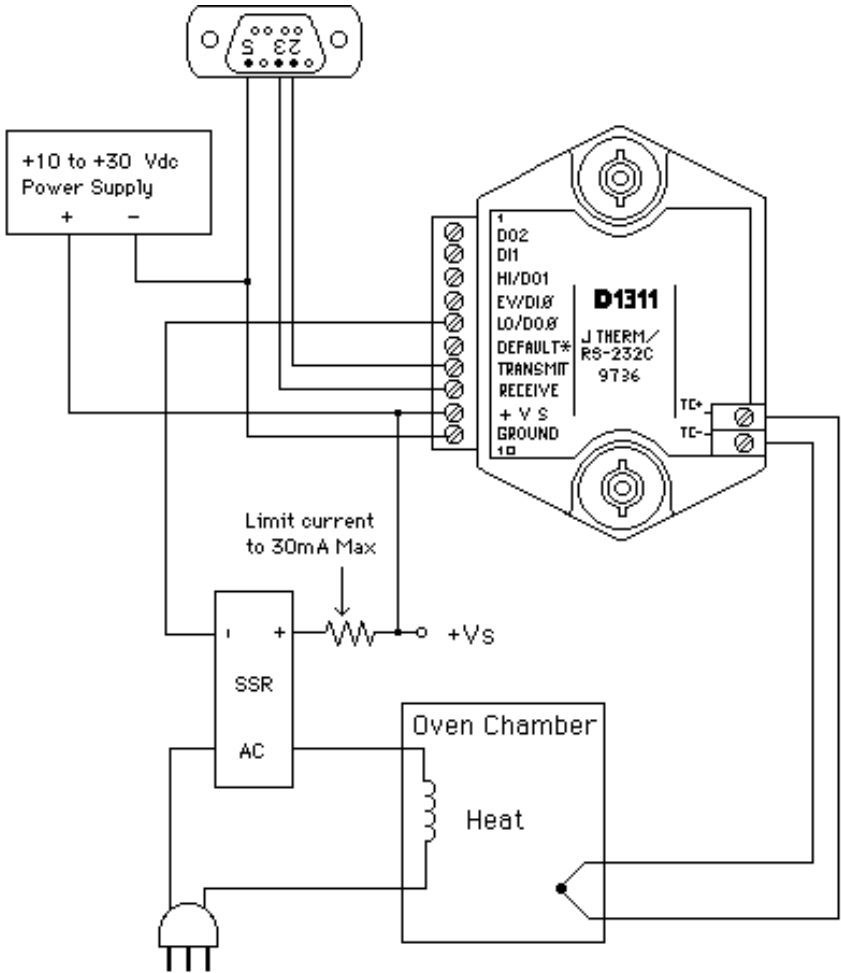

Figure 6.5 On-Off Controller
The simplest controller connection is to use a momentary alarm output to control the process. A typical application would have a temperature input module controlling a heater, as shown in Figure 6.5. To maintain a constant temperature, set the low limit to the setpoint desired and specify the alarm output to be momentary. Use the LO alarm output to control the heater. If the temperature measurement exceeds the low limit, the heater
A typical example of a controller with hysteresis is illustrated in Figure 6.5. A J-Thermocouple input module such as a D1311 maybe used to regulate the temperature of an oven. The thermocouple is used to sense the oven temperature. The LO alarm output controls a solid state relay (SSR) which in turn controls the oven heater. The Enable Alarms (EA) command must be used to activate the alarm outputs. In this case the desired regulated temperature is 100°C. The Lo alarm is set to 95°C in the latching mode with the LO command. The HI alarm command is used to set the upper limit to 105°C in the momentary mode. The total hysteresis is the difference between the two alarm values, or 10°C. In the steady state condition, the oven temperature will oscillate between 95°C and 100°C (ideally).